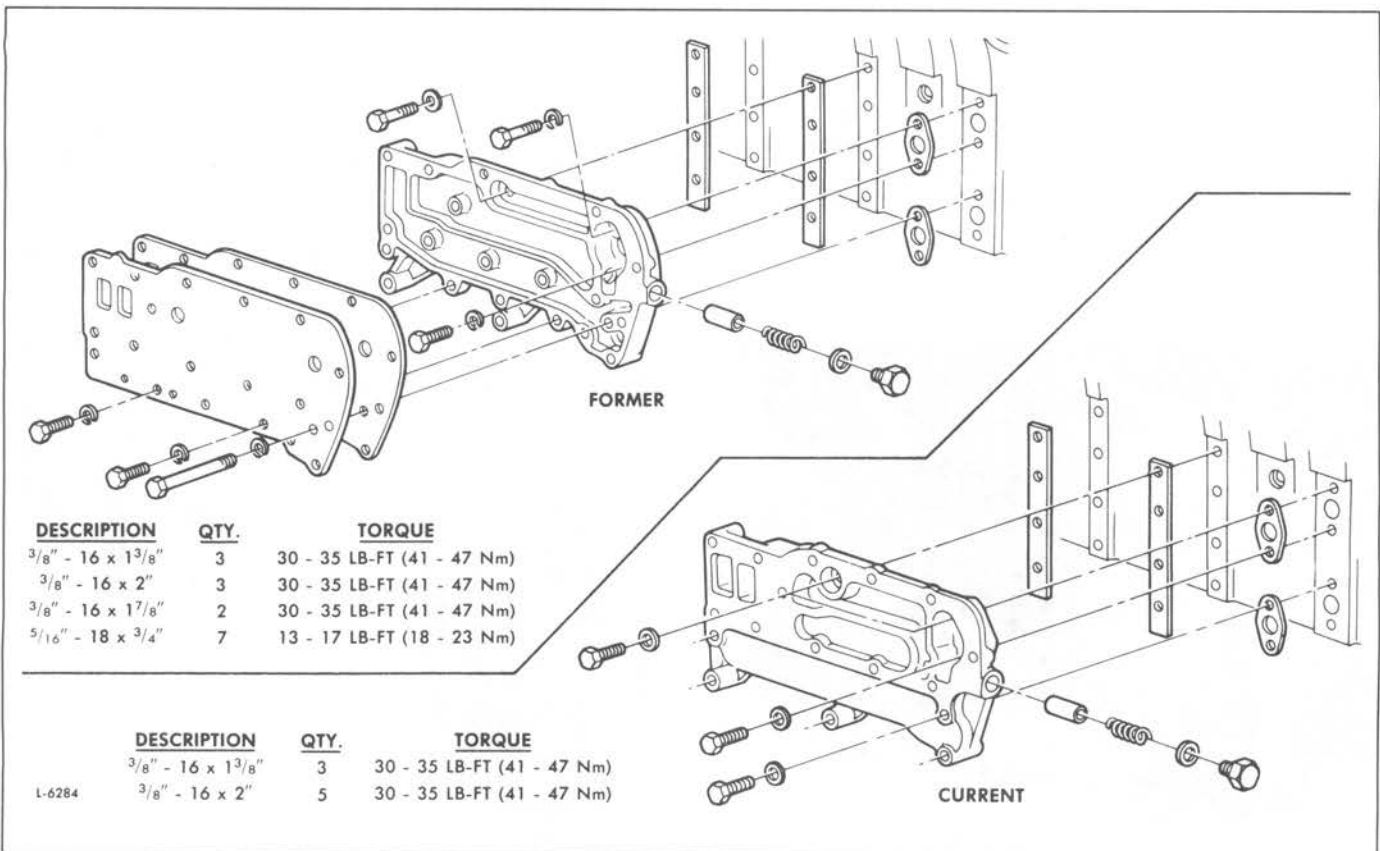

Fig. 4 – Former and Current Oil Cooler Configuration
A new, one-piece cast oil cooler adaptor which eliminates the need for a separate cover plate and gasket is being used on 6V and 8V-92 engines. The new adaptor also eliminates the potential for external oil leakage between the gasket surfaces of the former adaptor and oil cooler adaptor plate (Fig. 4). The new adaptor is completely interchangeable with the former adaptor and only the new will be serviced. The gasket and plate used with the former adaptor will be retained for service.
1. If the oil cooler adaptor was removed, use new gaskets and attach the adaptor to the cylinder block with bolts and lock washers (Figs. 4, 8 and 9). If a twin plate oil cooler is used, use a new gasket and attach the adaptor plate to the oil cooler adaptor.